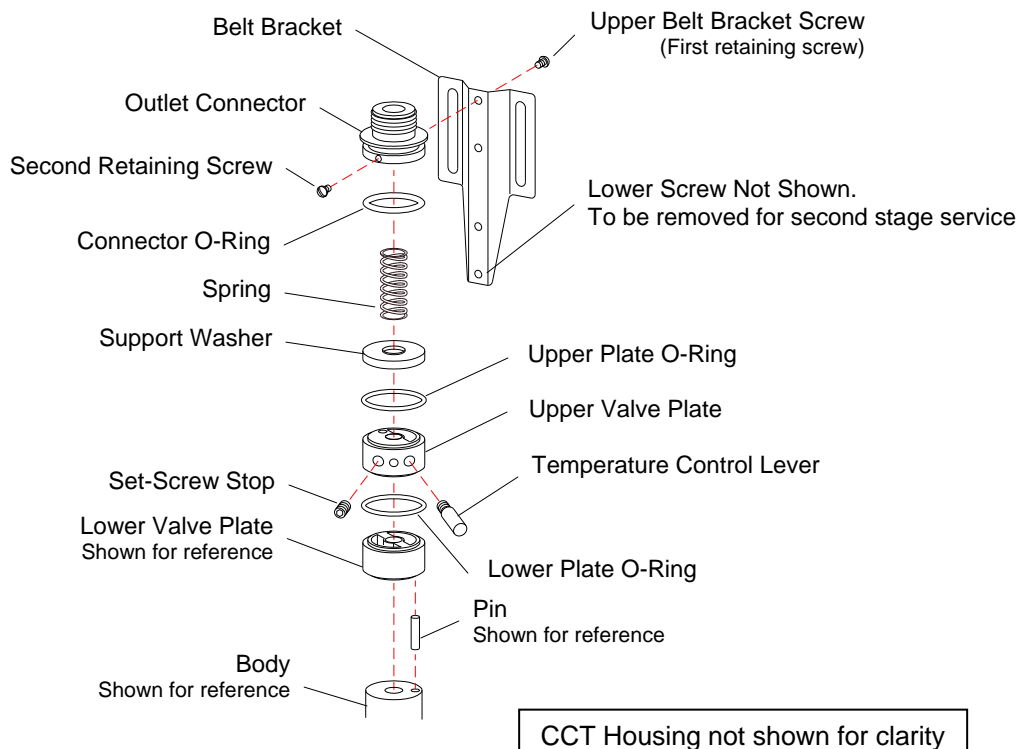

Figure 4
### 5.2 First Stage Service, Refer To Figure 4
5.2.6 Remove the o-ring from lower valve plate. NOTE: If the lower plate and pin come loose, refer to Figure 4 for reassembly.